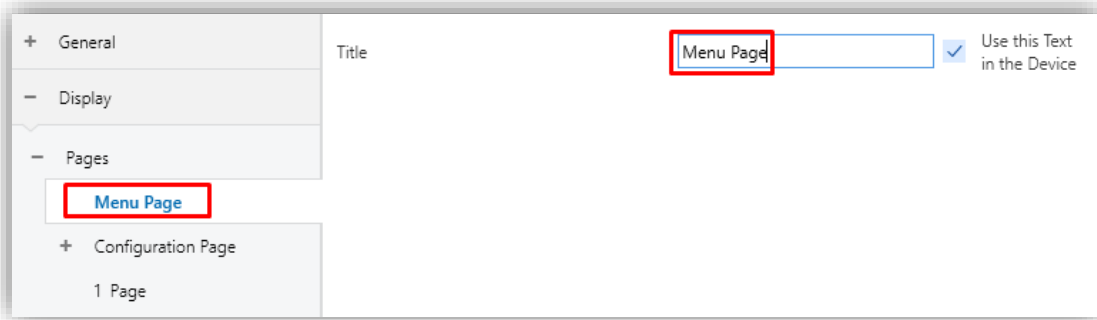

Figure 36. Menu
- **Title:** text field that identifies the menu pages. In addition, this field allows changing the name of the tab in ETS left menu, as shown in the Figure 36.